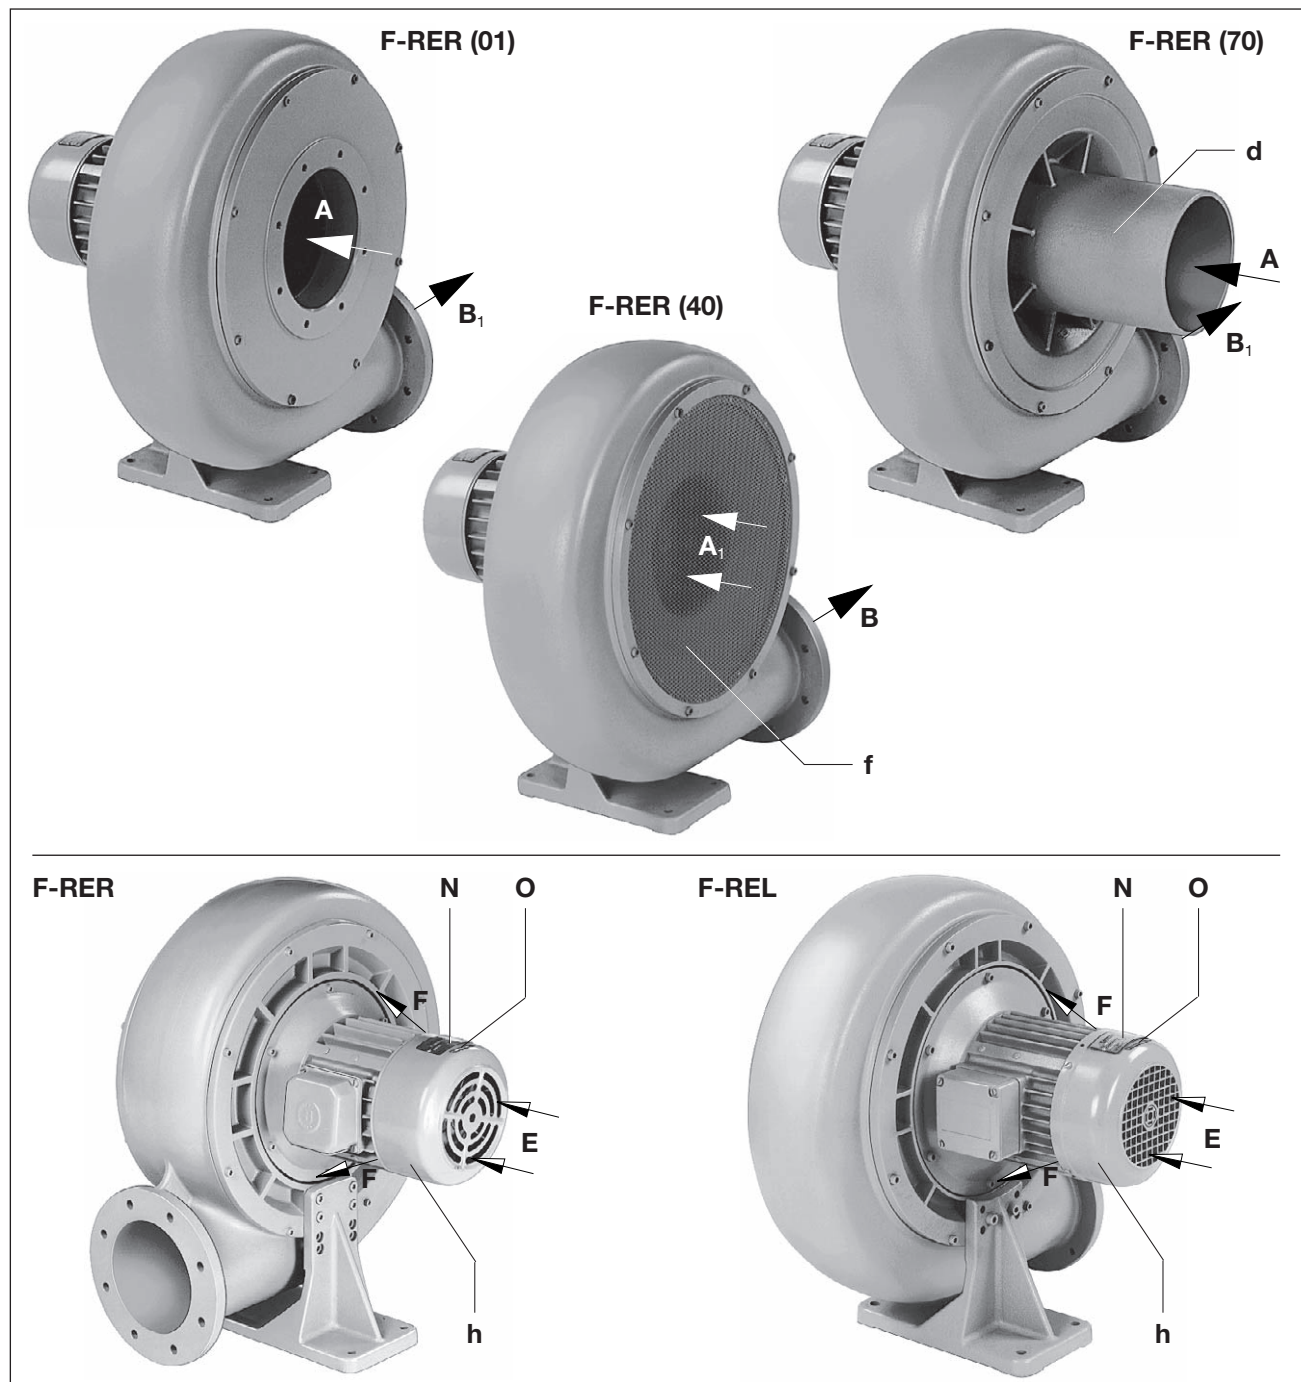

Fig. 2 Radial blower F-RER (Clockwise rotation) / F-REL (Counter-clockwise rotation)
They have capacities from 4.9 to 57 m³/min and obtain a pressure difference of up to 74 mbar on 50 cycle operation. The pressure and vacuum limits are indicated on the data plate (Fig. 2/N). The performance curves showing capacity against vacuum or pressure can be seen in data sheets D 750, D 751, D 752 and D 753 or D 760, D 761, D 762 and D 763.
The cooling air inlets (Fig. 2/E) and the cooling air outlets (Fig. 2/F) must be at least 20 cm away from adjacent walls. Cooling air coming out must not be sucked in again. Additionally care should be taken that the suction air entry (Fig. 2/A₁) and the exhaust air exit (Fig. 2/B₁) are not obscured.
- a) When on vacuum operation connect the suction pipe at (Fig. 2/A) and when on pressure operation connect the pressure pipe at (Fig. 2/B).
- a) The motor's electrical data is given on the data plate (Fig. 2/N) or on the motor data plate. The motors comply with DIN EN 60034 and are in protection class IP 55 and insulation class F. The appropriate connection diagram is located in the motor's terminal box (not for the plug connection version). The motor data must be compared with the data of the existing mains network (current type, voltage, network frequency, permitted current value).
- ▷ The intended direction of rotation of the drive shaft is shown by the rotary direction arrow (Fig. 2/O) on the motor cover (Fig. 2/h).